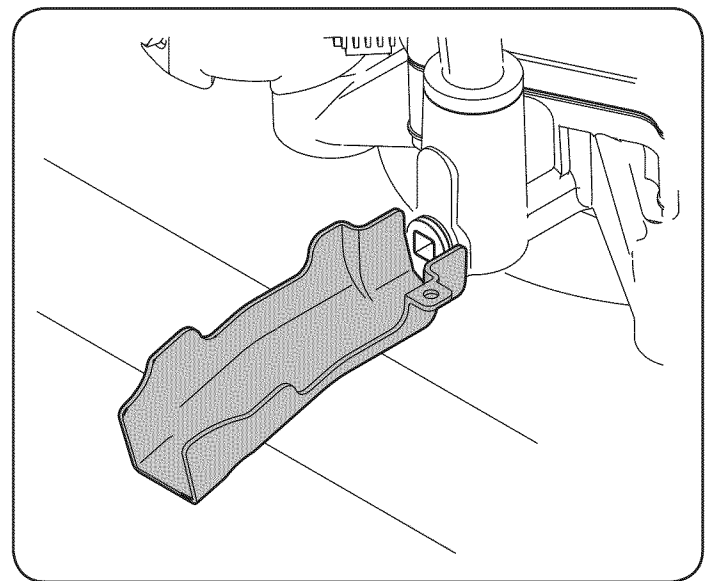

Figure 10
6. Clip the oil drain sleeve (packed with this manual) onto the oil drain port as shown in Figure 10. Route the opposite end of the sleeve into an appropriate oil collection container with a capacity great enough to collect the used oil.